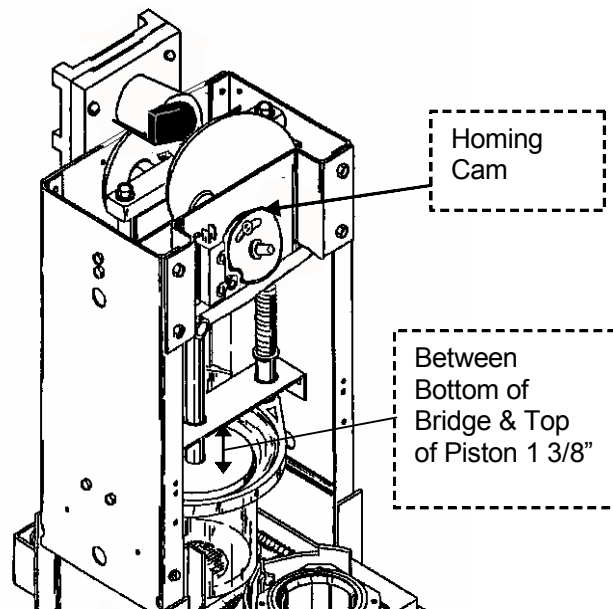

FIGURE 608
- A) In the Home position the piston rod between the top of the piston and bottom side of bridge should measure approximately 1 3/8 inches (see Figure 608 below).
- c) On the front side of the Coffee Driver Board, press and hold in the Brewer Test button to allow brewer to fully cycle until it stops on its own in the home position. Continue performing steps a) & b) until measurement of piston rod is 1 3/8" (see Figure 608).
- A) The alignment shoulder of the carriage moved slightly behind the rear vertical edge of the clear cylinder just as the cylinder starts down (see Figure 608).